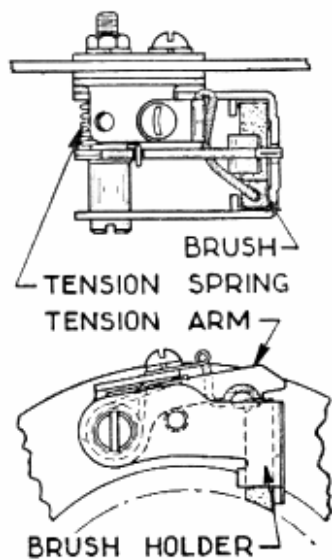

Fig. 33
of the commutator and brushes. The correct spring tension is 25 oz. See Fig. 33. Check the pigtail lead connections at the brushes to see that they are tight.
2. Check the brush spring tension and the brushes for sticking in the holders. If the brushes stick in their holder or if the brush spring tension is low, a low and unsteady output will result, and there may also be arcing and burning of the brushes and commutator. Refer to Figure 33.